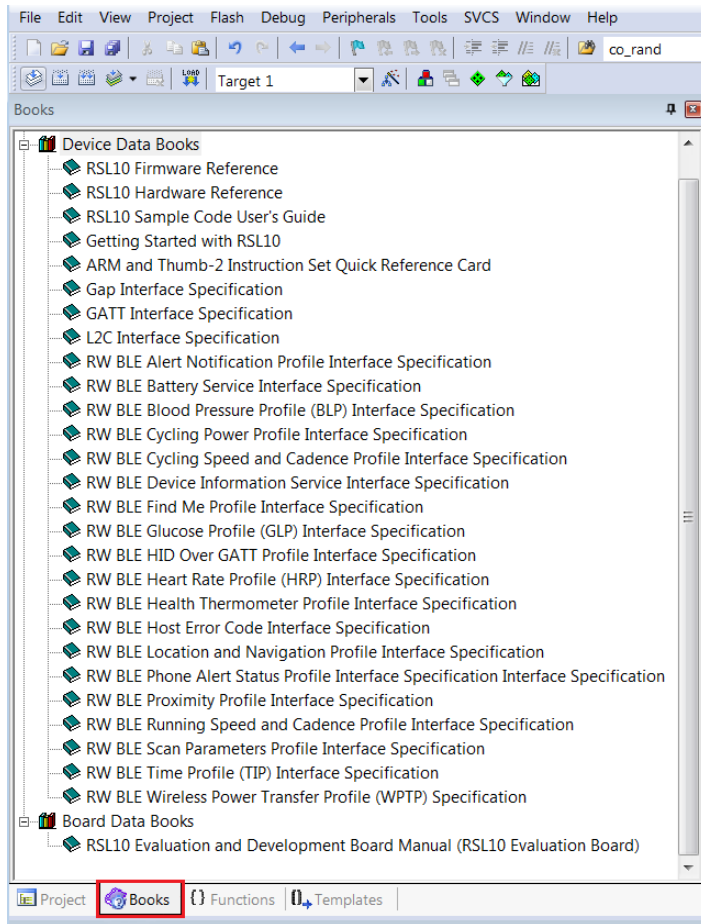

Figure 55. Accessing RSL10 Documentation from the Keil μ Vision IDE
- Keil µVision IDE: documentation is available in the **Books** tab, as shown in Figure 55.